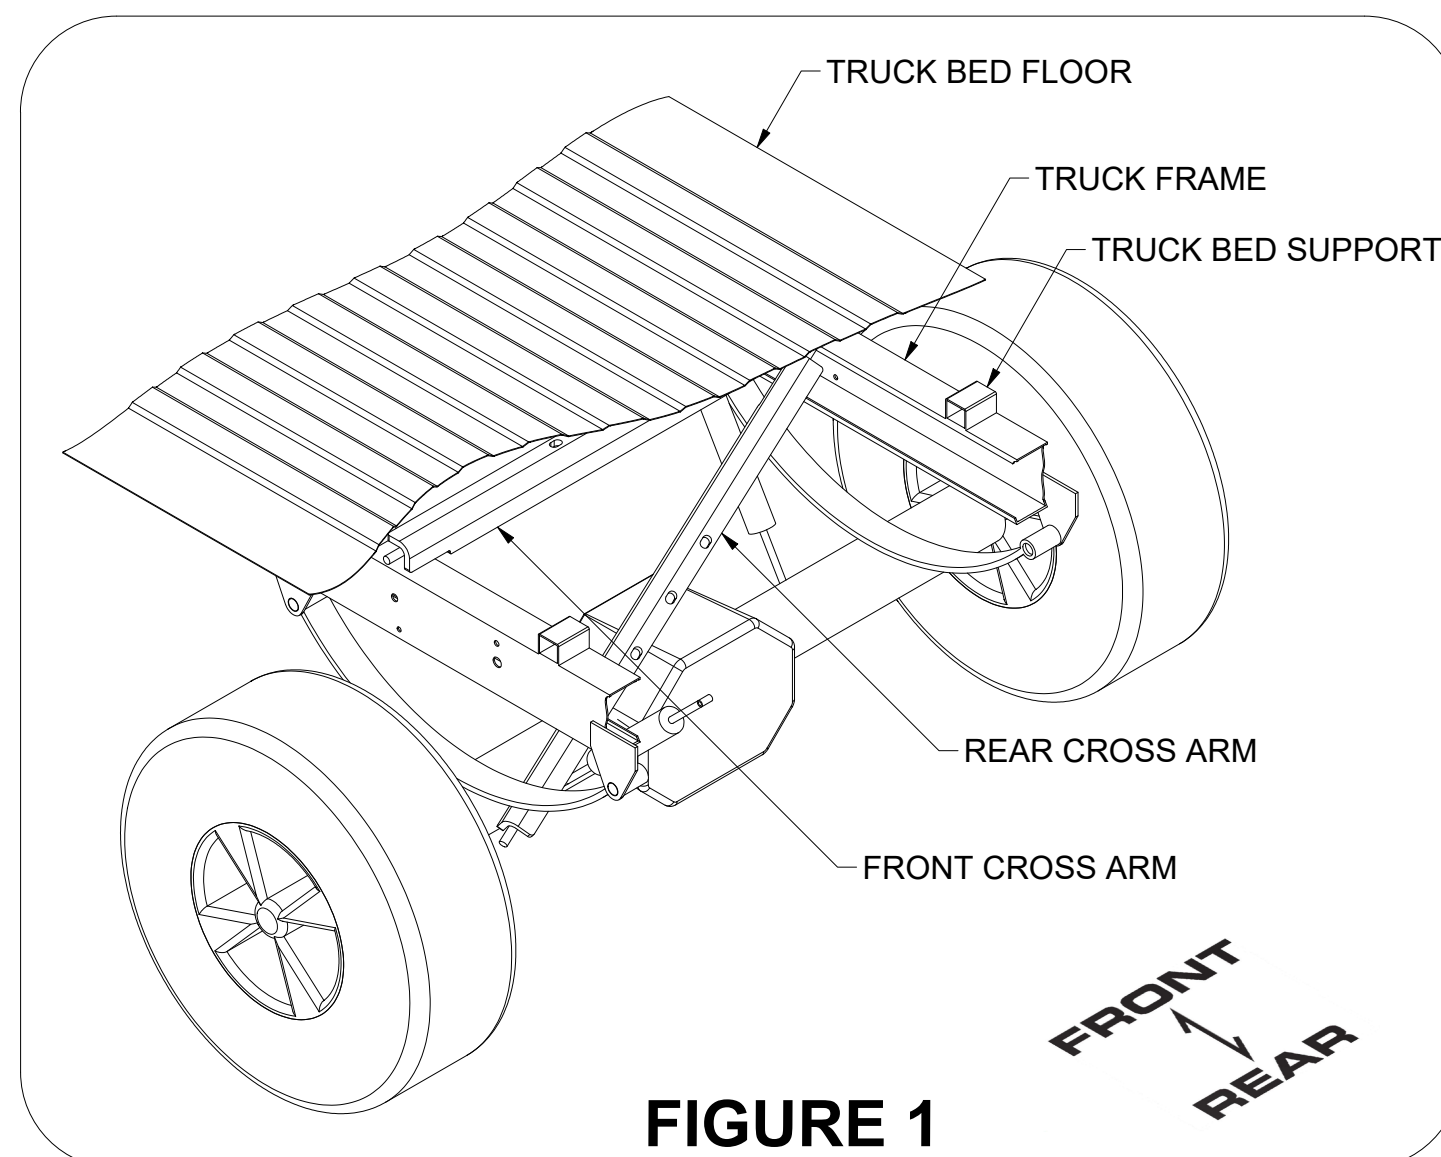

FIGURE 1
3. On 2005 models loosen the (2) bolts on the exhaust hanger mount in front of the rear axle between the exhaust hanger and the truck bed. Lower the exhaust approximately 1/2", insert the 1/2" spacer plate provided and retighten bolts.
5. Install cross arms by sliding them into the gap between the truck bed and frame on passenger side. Swing other end between the truck bed and frame gap on driver side as shown in **Figure 1**.